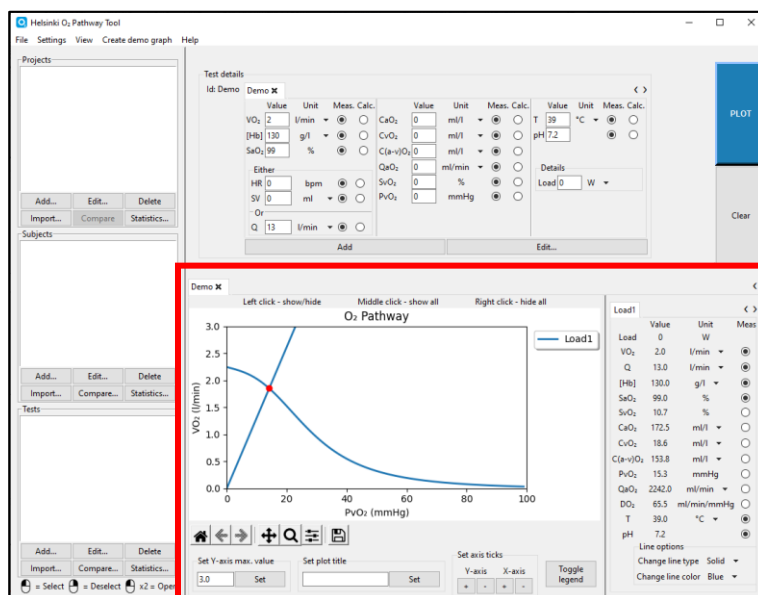

Figure 32
3. A demo figure is shown and the values used to create the figure are shown in the details panel (figure 32).